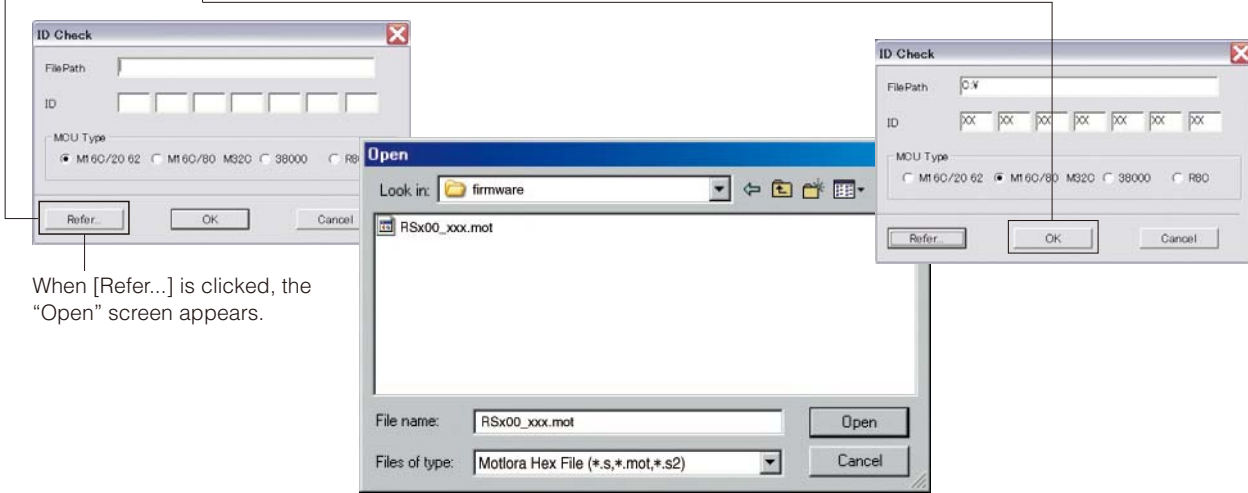

Fig. 3
4. Click [Refer...] and select the firmware name. (Fig. 3)
\* The ID and MCU Type are loaded automatically when the file is selected. (Fig. 3)
Click [OK]. (Fig. 3)